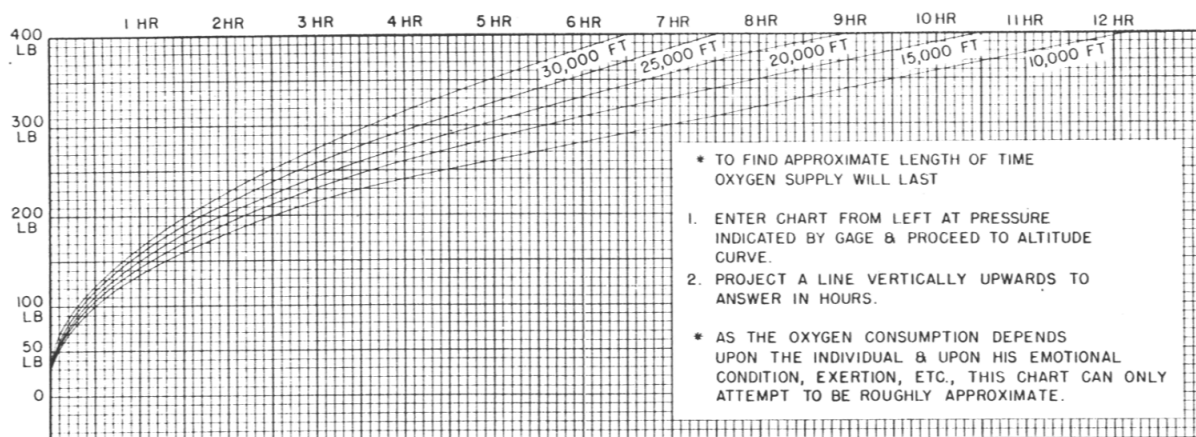

Figure 40—Oxygen Consumption Chart
g. **RECOGNITION LIGHTS.**—For operation of recognition lights, see Section II, paragraph 23, a. (5).
a. **DESCRIPTION.**—Oxygen is supplied from two Type D-2 and two Type F-2 low pressure oxygen cylinders. A Type A-12 demand regulator, cylinder pressure gage, low-pressure warning signal, and flow indicator are in the cockpit (see figure 39). A Type A-9, A-9A, A-10, or B-14 mask may be used with this equipment. The blinker flow indicator operates with the breathing of the wearer, indicating proper functioning of the system. When the pressure of the cylinders drops to the danger point (100 lbs./sq. in.), a signal lamp on the instrument panel illuminates. The oxygen cylinders may be refilled without removal from the airplane by means of a filler valve on the left rear side of the fuselage. Normal full pressure of the system is 365 lbs./sq. in. See figure 40 for oxygen consumption chart.